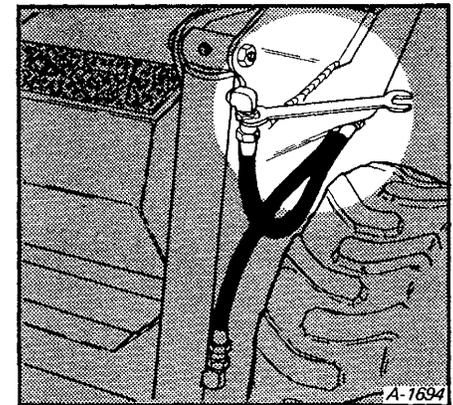

Fig. 1-36 Remove Hose From Cylinder Port
- (1) Fully lower the lift arms. Tilt the Bob-Tach fully back. Use a block to hold the Bob-Tach in this position.
- (2) Disconnect the hoses from the base end of each cylinder (Fig. 1-36). Put plugs in the hydraulic hose ends.
- (3) Start the engine and run at slow RPM. Push the bottom of the tilt pedal. Look for oil leakage at the open cylinder ports. Move the throttle to fast RPM and check open cylinder ports for oil flow.
- (4) The cylinder piston are good if only a small amount of oil come from the open cylinder ports.
- (5) Install the hoses and check rod end of cylinder for leakage past the head seals.